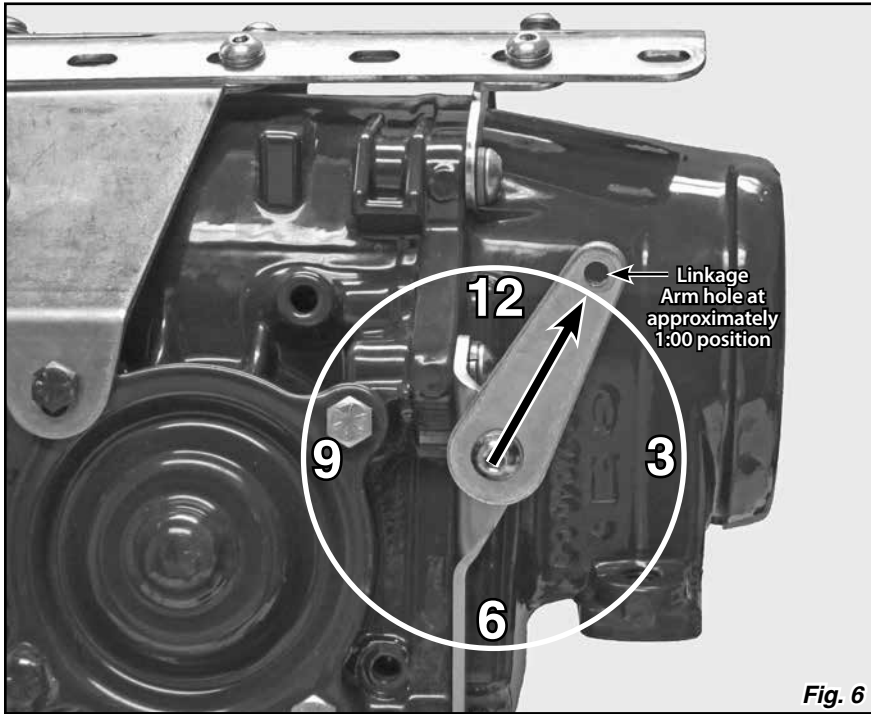

Fig. 6
Step 5: Attach the linkage arm to the bell crank mounting bracket as shown in **Fig. 5**, using the 5/16"-24 x 1" button head bolt, flat washers, and nylock nut. The bolt can be inserted from either direction, but make sure the nylon friction washer is in between the linkage arm and the mounting bracket. Position the linkage arm pointing towards approximately the 1:00 position, and tighten the nylock nut. **Fig. 6**